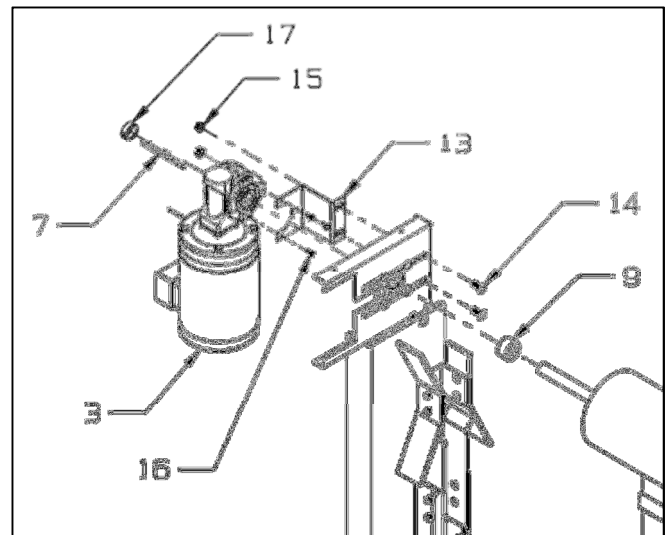

Fig. 10
1. Slide motor assembly onto motor-side shaft. Align motor torque arm with slotted holes in bearing bracket. (See #16 in Figure 10). Insert torque-arm bolts and secure.
2. Align keyhole in gearbox and shaft. Insert 1/4" motor key and secure with shaft collar. (See Keyway - #7, and Shaft Collar - #18 in Figure 10)